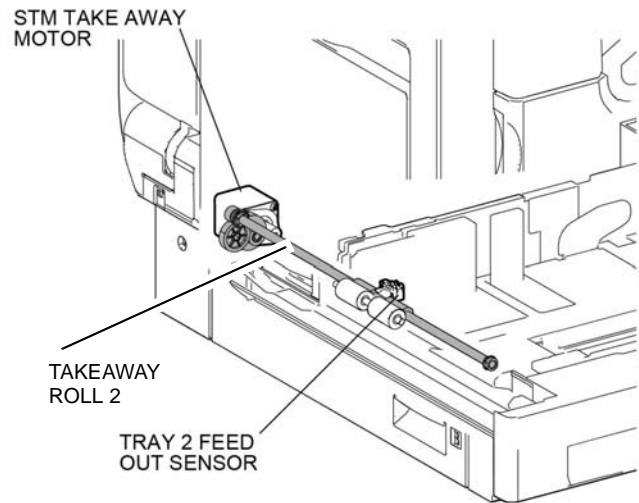

Figure 4 STM
When tray 2 is selected tray 1 takeaway roll is energized and the tray 2 associated takeaway motor turns on, driving takeaway roll 2. At the same time the tray 2 feeder is activated and paper is fed from the feeder onto takeaway roll 2. When the tray 2 feed out sensor detects the lead edge of the sheet, the takeaway motor reduces speed, Figure 4.
- Tray 2 STM, Figure 4.